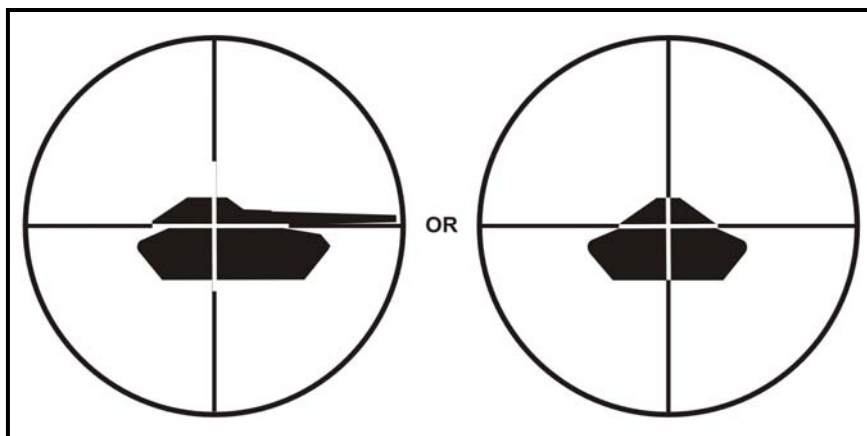
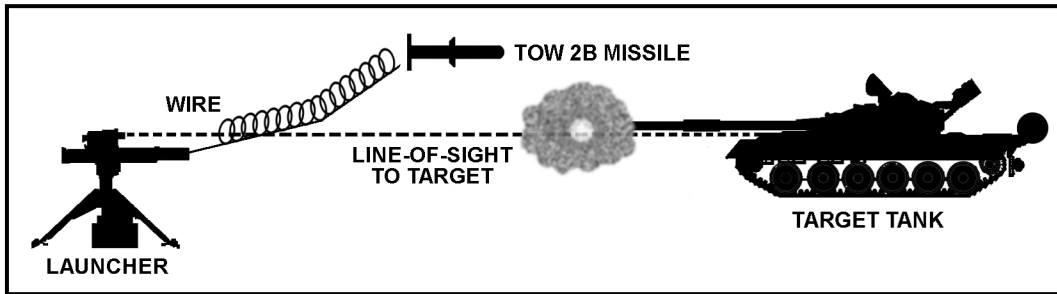

Figure 1-34. Gunner's aim point for FOSD TOW missiles.
Figure 1-35. FOSD missile flight path.
b. **Fly-Over-Shoot-Down.** The BGM-71-series of missiles (TOW 2B and TOW 2B AERO) are optimized to use the FOSD type of attack (Figure 1-34). The missile will fly over the target and shoot down when the warhead detonates. These missiles fly above the gunner's line of sight, so they can engage targets that are hidden (for example, behind a berm). Sensors determine when the warhead will detonate. There are two sensors: one is a magnetometer that senses and looks for a large concentration of iron below it; the second sensor ranges down to the ground and identifies when the range changes relative to known target profiles. When these two conditions are met, the warhead detonates, forming two penetrators that shoot down upon the target.
(1) For the TOW 2B and TOW 2B AERO missiles, the gunner must always keep the crosshairs of the TOW weapon system at the center of mass of the target—or where the center of mass would be for a hidden target (Figure 1-34). The software in the launcher determines how high the missile will fly. The launcher will fly the missile about 10 feet above the gunner's line of sight so it flies over the target (Figure 1-35, page 1-36). If the gunner's aim point is too high, the missile will fly too far above the target to kill it.